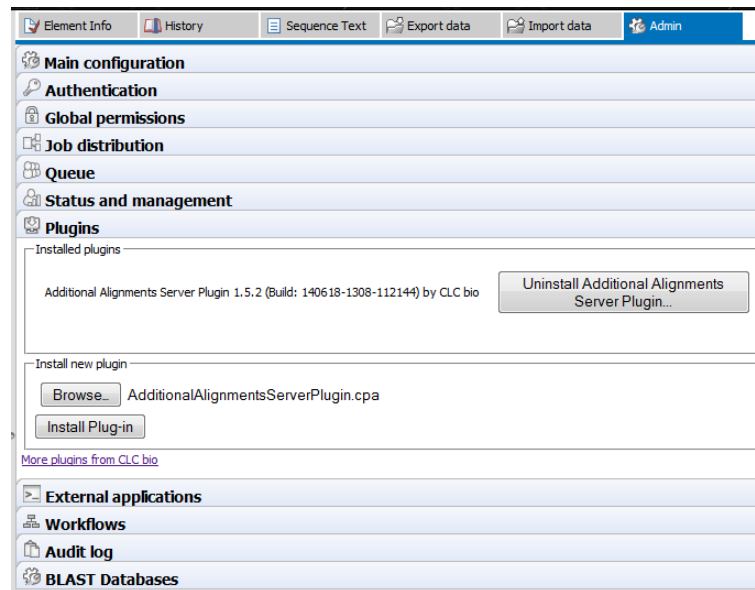

Figure 2.23: Installing and uninstalling CLC Server plugins is done via the *Plugins* section of the web administrative interface.
- (a) Go to the Plugins section under the **Admin**  tab (see figure 2.23).